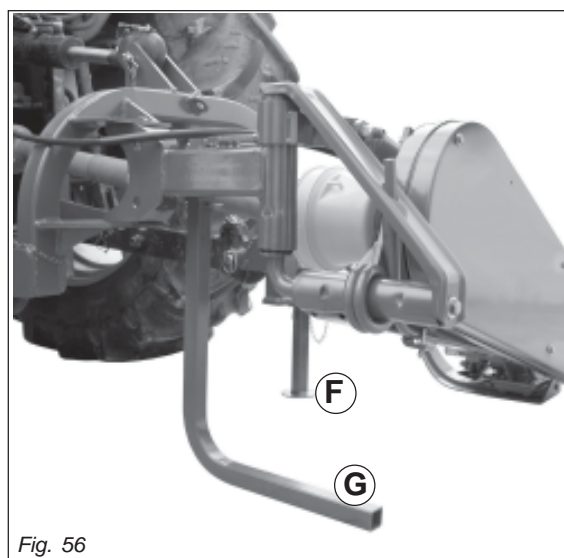

Fig. 56
- Lastly, store the implement in a dry place where it cannot be tampered with by unauthorized persons; the mowing machine must be set-up on flat and compact ground, supported by the relative supports (F and G, Fig. 56).